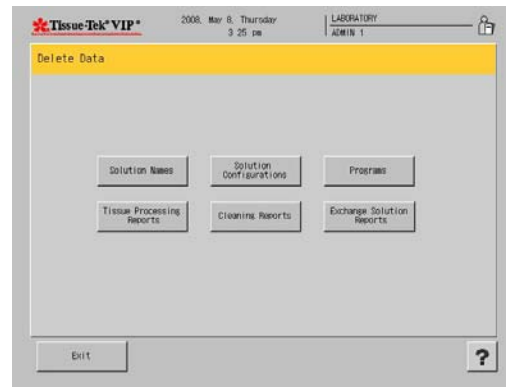

Figure 3-NNN
- The Delete Data screen displays (Figure 3-NNN).